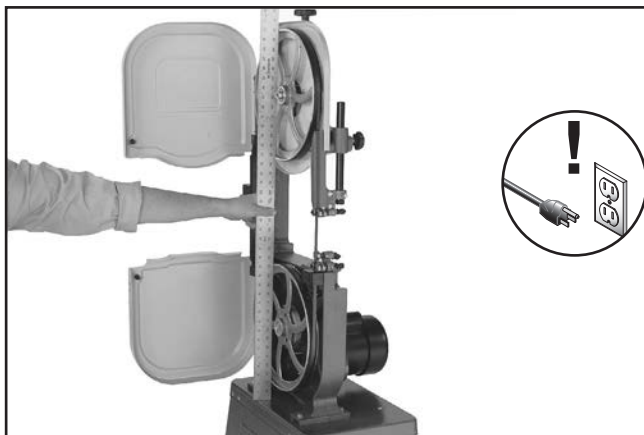

Figure 59. Checking wheel alignment with a straightedge.
3. With blade on and properly tensioned, hold a straightedge close to center of both wheels. Make sure straightedge fully extends across rims of both wheels, as shown in **Figure 59**.